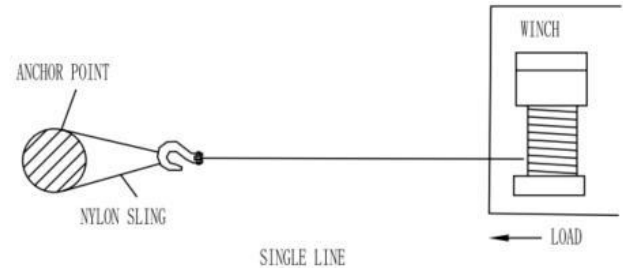

Fig. 6
1. The most commonly used rigging. A nylon sling is used to protect the tree when it is used as an anchor, and the wire rope is attached to use the sling (See fig.6).